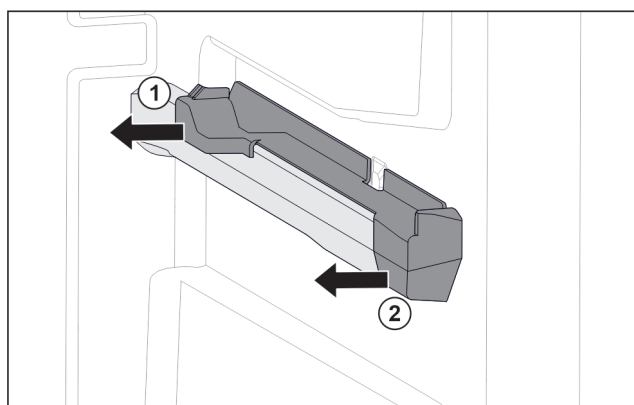

Fig. 58 Attachment on the right moulded rib
- ▶ Pull off attachment at the back sideways. Fig. 58 (1)
- ▶ Pull off attachment at the front sideways. Fig. 58 (2)